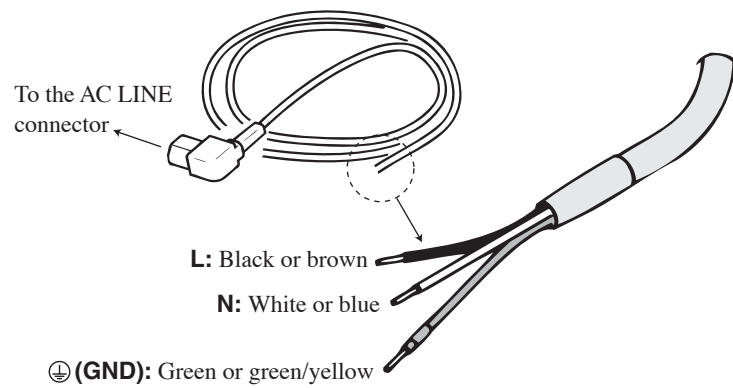

Fig. 1-2 Power Cord
3. Prepare the terminals at the AC power supply end of the power cord as shown in Fig. 1-2.